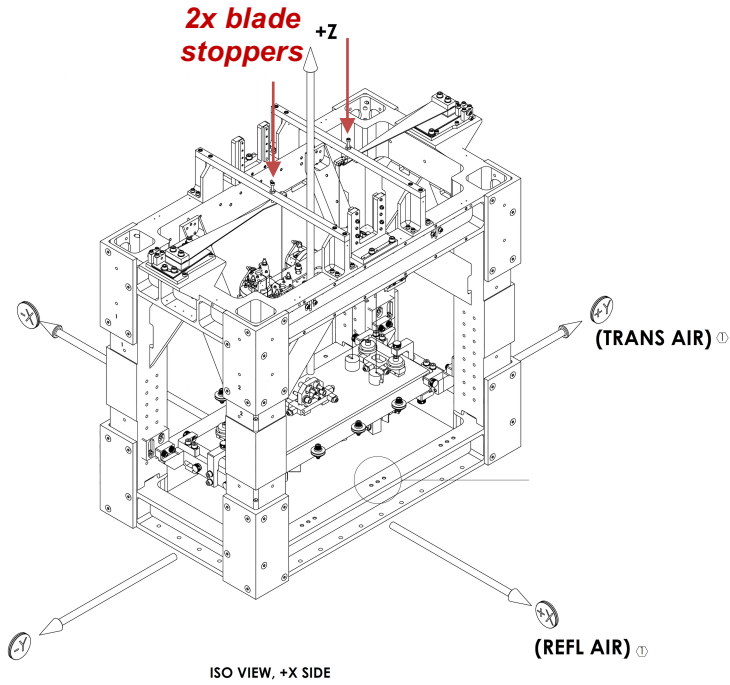

Figure 1: Blade stoppers on the Top Blade Guards (D0900295)
- Fix the top blade bending by two blade stopper screws on the Top Blade Guards of OMCS until they touch the vertical blades (Figure 1 and T080117 Section 8).